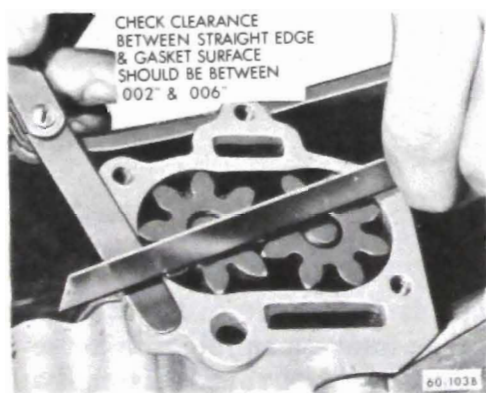

Figure 60-251 Checking Oil Pump End Clearance
3. Place a straight edge over the gears and measure the clearance between the straight edge and the gasket surface. See Figure 60-251. Clearance should be between .0023" and .0058". If clearance is less than .0018" check timing chain cover gear pocket for evidence of wear.